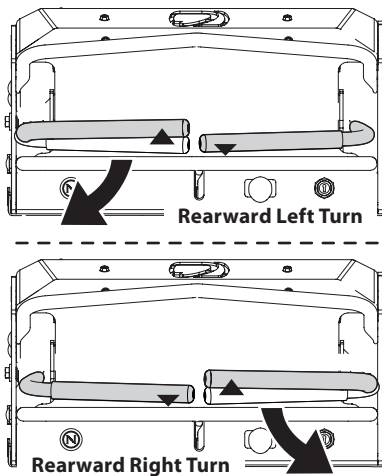

Figure 12
1. To turn to the left while traveling in reverse, move the left drive control lever forward of the right drive control lever. See Figure 12.
2. To turn to the right while traveling in reverse, move the right drive control lever forward of the left drive control lever. See Figure 12.